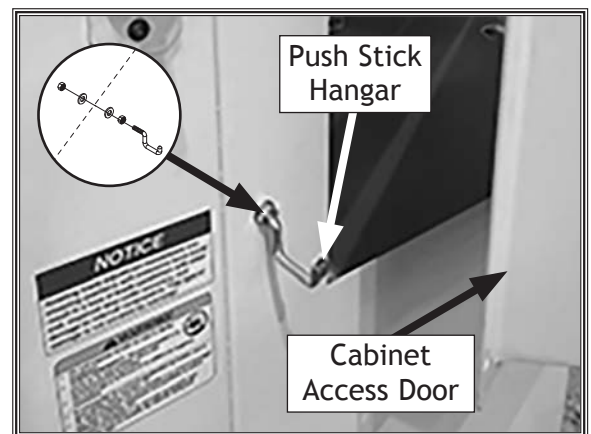

Figure 35. Push stick hangar installed.
34. Locate hole in cabinet near bottom left corner of cabinet access door, then open door (see **Figure 35**).
35. Thread (1) 1/4"-20 hex nut with (1) 5mm flat washer onto push stick hangar, secure with (1) 1/4"-20 hex nut (see **Figure 35**), then close door.